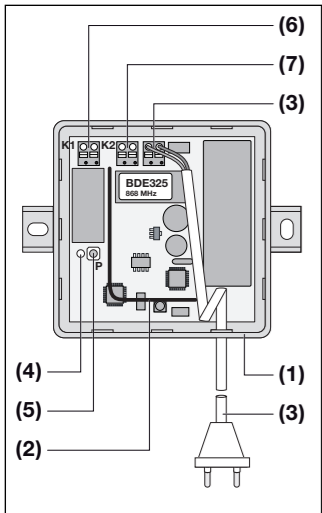

Fig. 2
2.2 Receiver BDE325 (fig. 2)
2.2 Mottagare BDE325 (fig. 2)